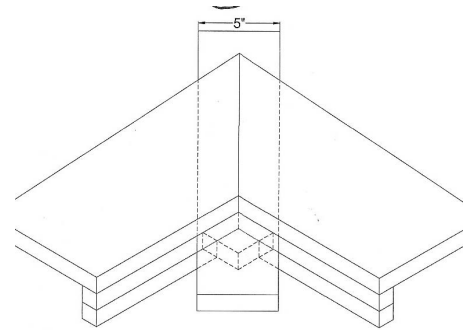

Figure 21B
- Seam support must extend passed the front inside corner and be able to receive the first edge strip stacked on both sides of the inside corner. (Fig. 21B)